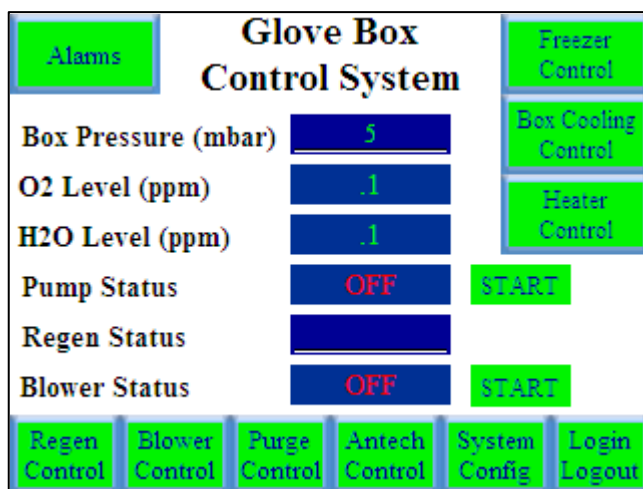

Figure 5 Main Glovebox Control screen
- 3 Press the **Main Screen** button to reach the Main Glovebox Control screen (Figure 5).